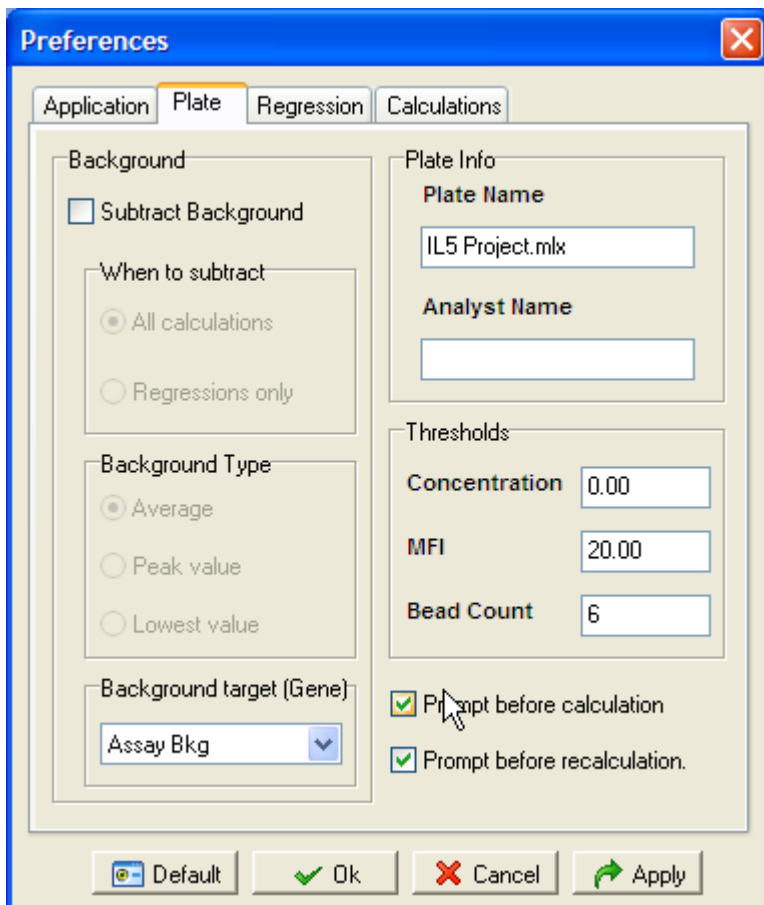

Figure 4.25 Preferences dialog box, Plate tab
1. Enter the MFI, count, or concentration threshold in the Preferences dialog box (Figure 4.25).